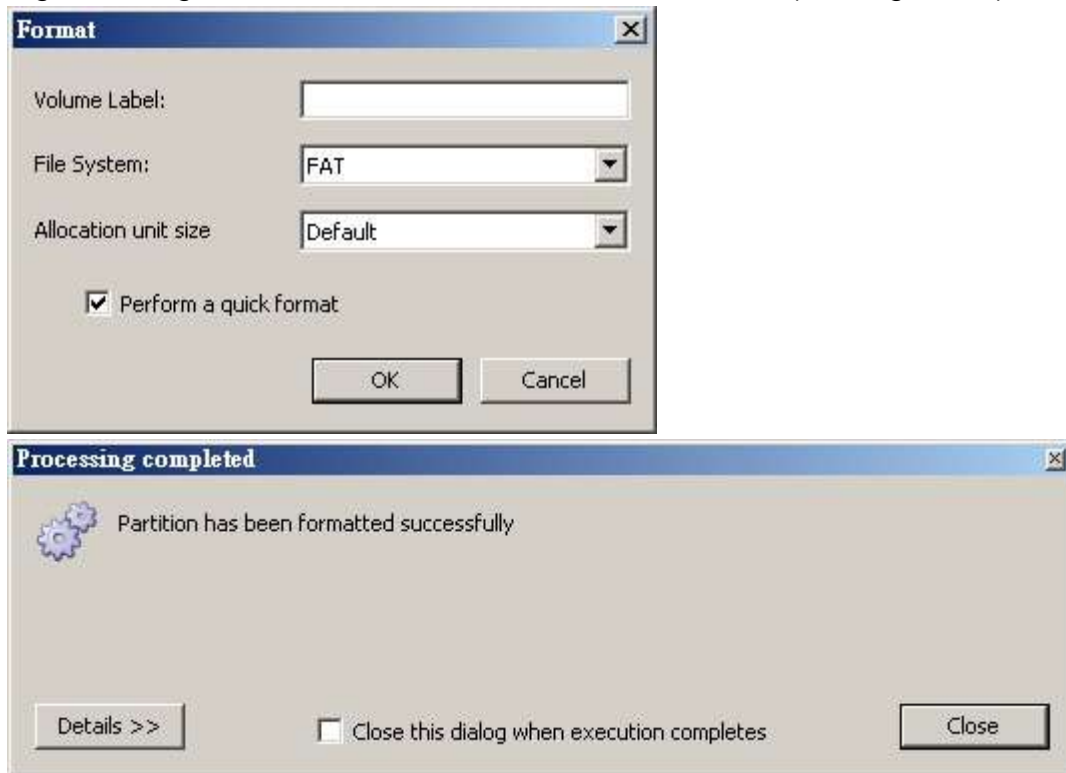

Figure 80
- Right click again and choose format, Click OK, finished (see Figure 80)